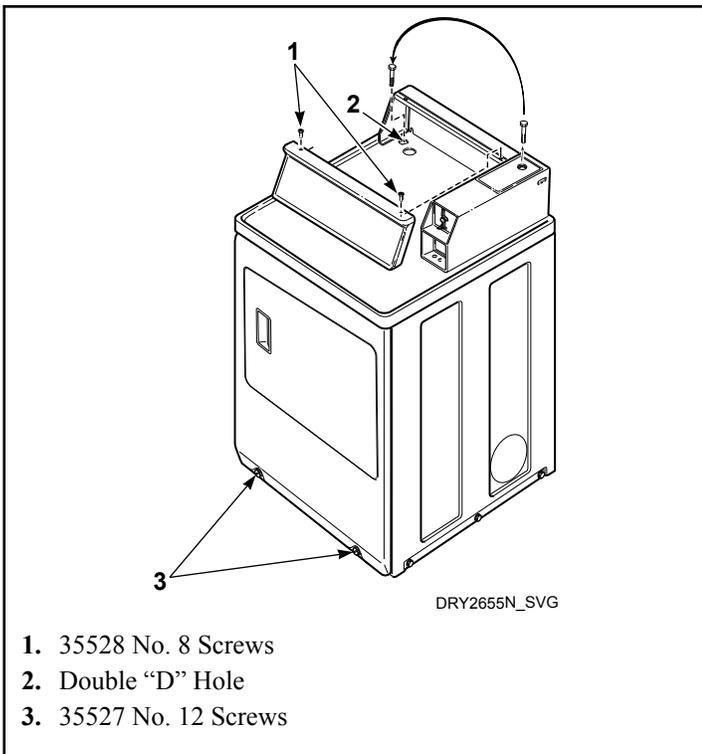

Figure 40
1. Remove the Phillips head screw from service door (refer to *Figure 40*).